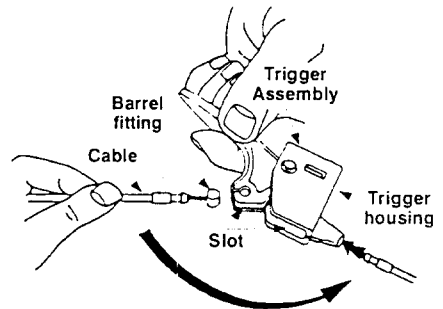

FIGURE 18
- Place the barrel fitting into the hole in the trigger. Pull on the cable and rotate it around the bottom of the trigger, with the inner cable in the slot, until the cable end can be pushed into the trigger housing and snapped tight. See figure 18.